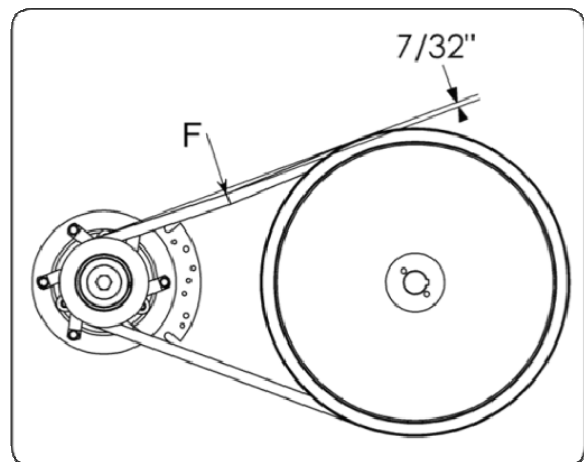

Figure 25 – Measure the tension on the belt
**WARNING:** Too much tension on the belt will considerably reduce the belt's life span. Ideally, 7 lbs (30N) of force are needed to obtain a  $7/32"$  (5mm) deflection (see figure 25).